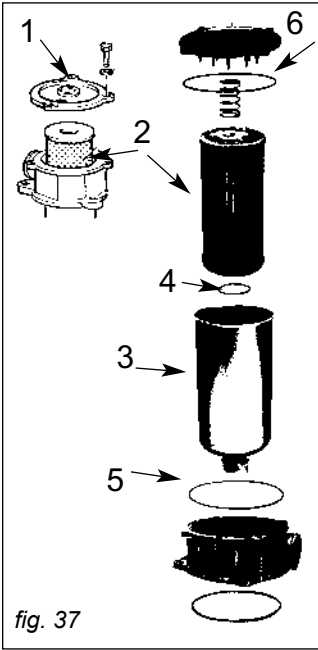

fig. 37
**Cleaning of the filter on the tank (oil return from the distributor) fig. 37**
- Remove the filter cover, pos. 1, by unscrewing the three security bolts. Remove the spring and extract the filter cartridge pos. 2: during this operation take care that no contaminated material passes into the tank.
- Remove the filter holder from the filter body pos. 3 (a hose is attached to its base); clean and reassemble checking the sealing 'O' rings pos. 4-5 (internal seal between cartridge and holder and external seal between holder and body).
- Re-assemble the filter cartridge into its holder, re-assemble the spring and the filter cover pos. 6 (check the sealing of the 'O' ring under the filter cover).